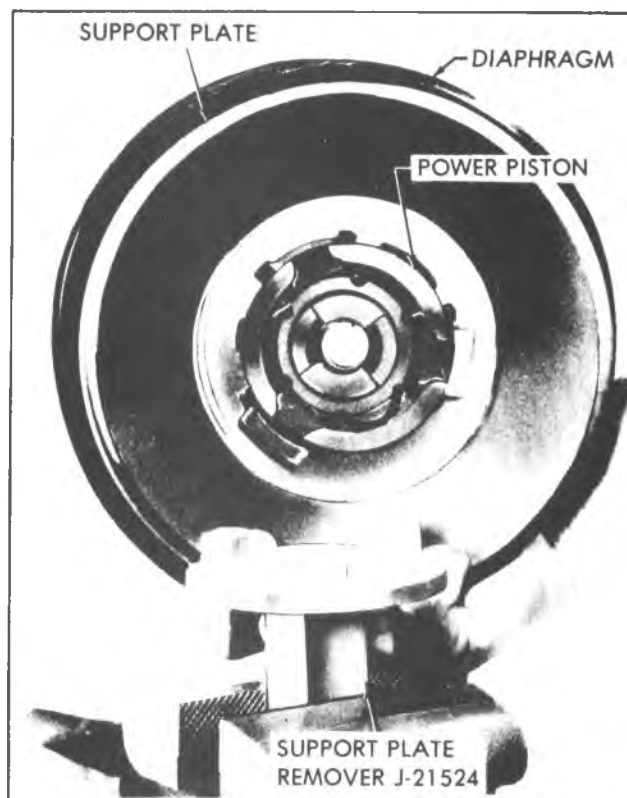

Fig. 5-6C—Positioning Support Plate Retainer in Vise
5. Place power piston Tool J-21524 with square shank in vise. Hold support plate and power piston with tube of power piston up (fig. 5-6C).